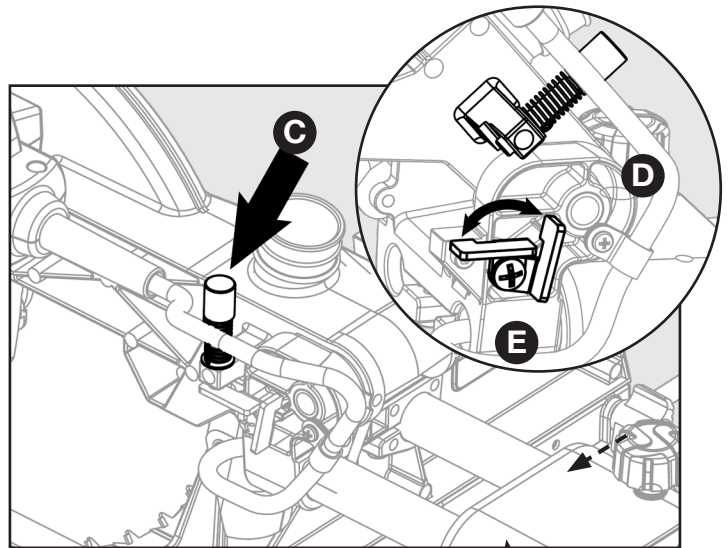

FIGURE 28
Refer to Figure 28 and follow these instructions in order to set the depth stop at a specific cut depth: use a Phillips head screwdriver to loosen screw (E) and then rotate the stop bracket (D) counterclockwise into the down position. Make sure to re-tighten screw (E). The cut depth can now be adjusted by turning the depth adjustment screw (C).
Refer to figure 28 and follow these instructions in order to make a through cut: use a Phillips head screwdriver to loosen screw (E) and then rotate the stop bracket (D) clockwise into the up position. Make sure to re-tighten screw (E).